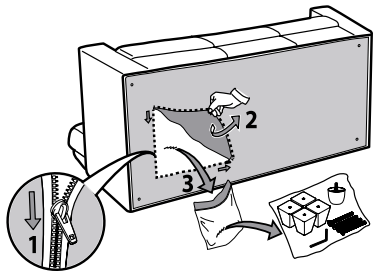

Fig. 1
- open the zip of the pocket inserted in the lower part of the structure and remove the envelope containing the feet. **Fig. 1**